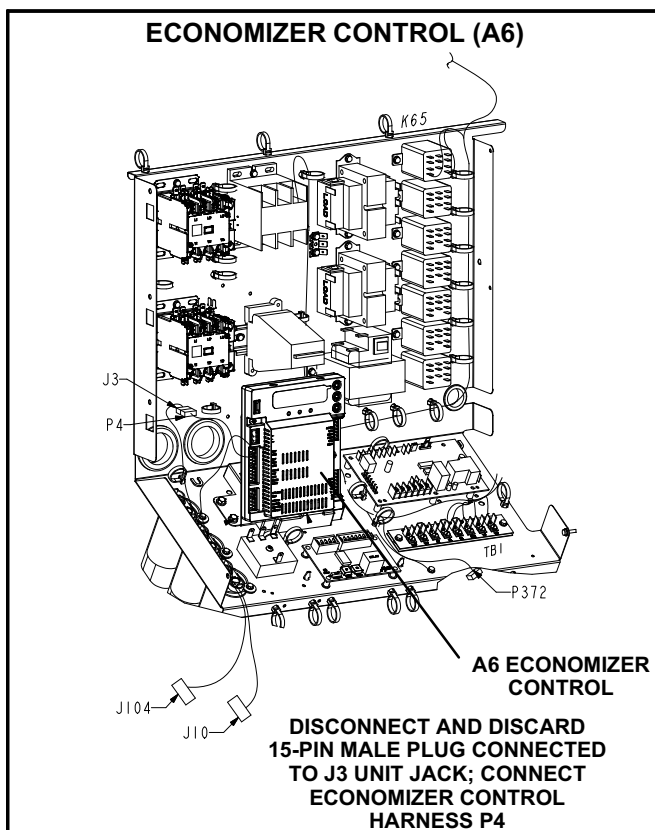

FIGURE 15
- 4- Route harness as shown in figure 15 and use push-in wire tie to secure harness to side wall.